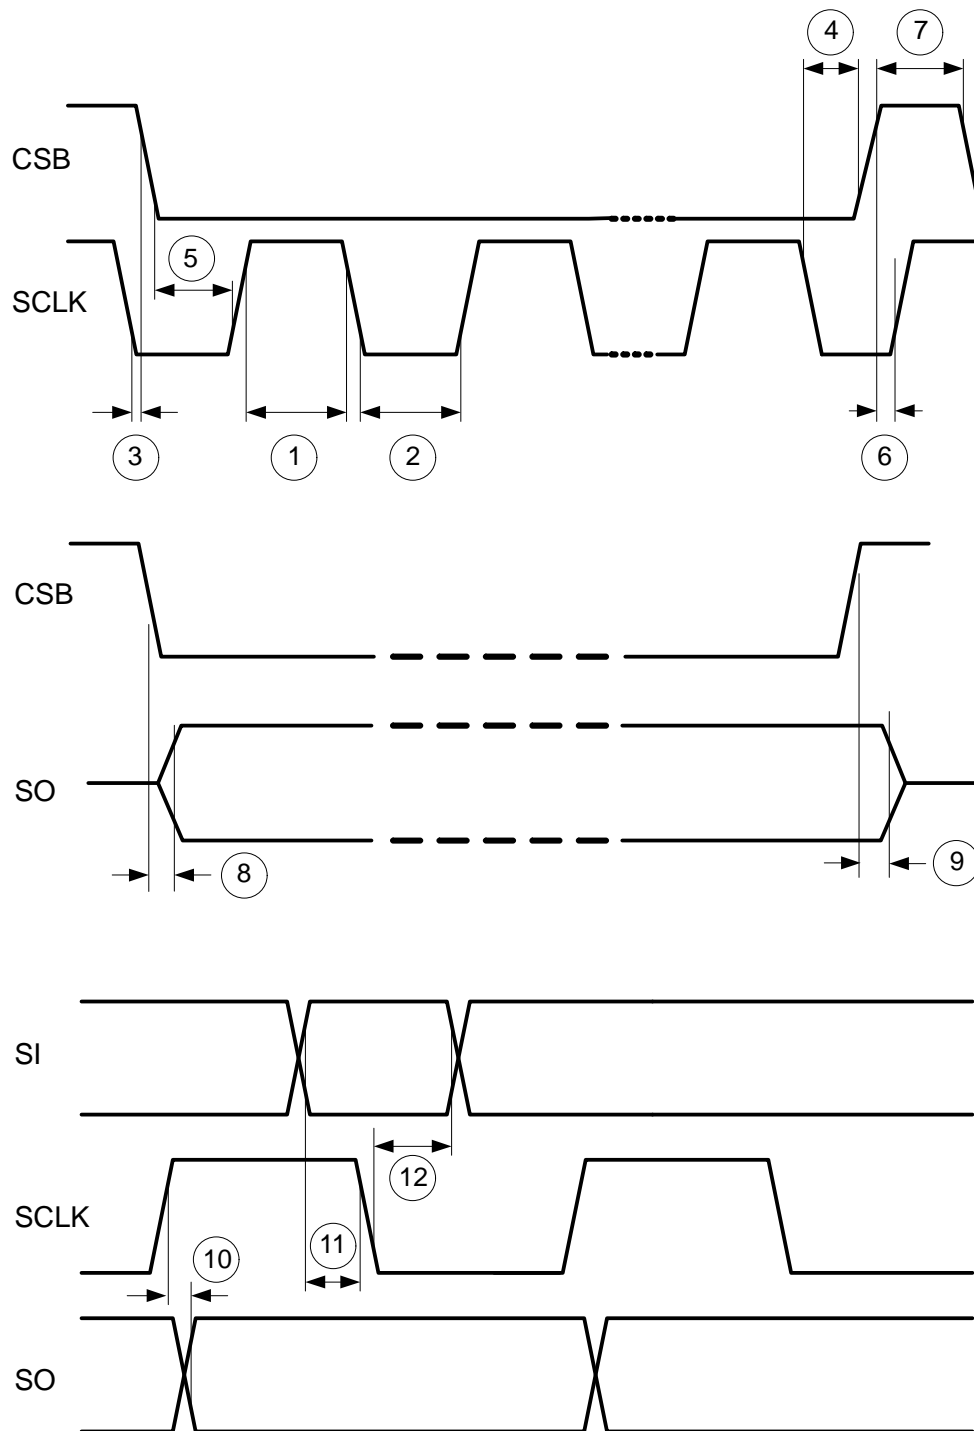

Figure 5. Detailed SPI Timing
3. CSB setup time ( $T_{csbSup}$ : Figure 5, #5) is satisfied.